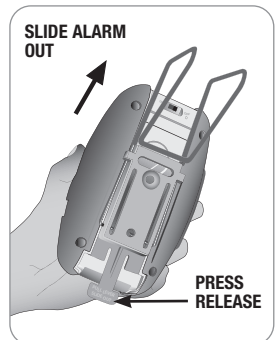

Fig. 18
4. To remove alarm, gently push release lever IN while sliding alarm up and out (Fig. 18).
5. To remove alarm, gently push release lever IN while sliding alarm up and out (Fig. 18 page 27).